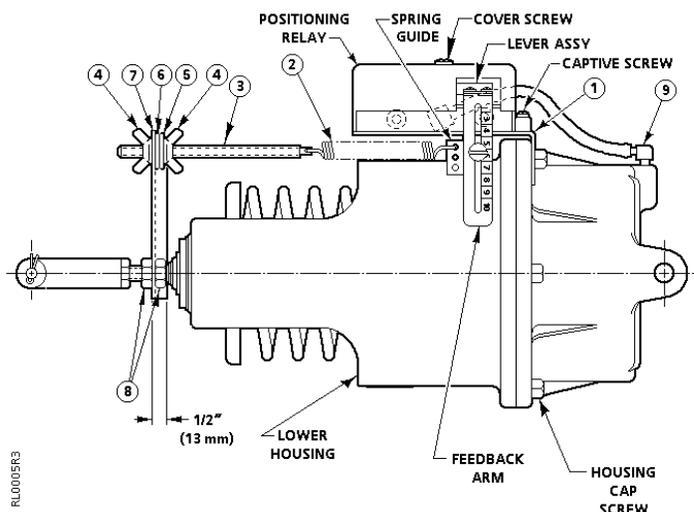

Figure 1. Positioning Relay Mounting Kit 147-276 on the No. 6 Damper Actuator.
1. Attach the mounting bracket (1) to the actuator by loosening two of the housing cap screws and inserting the mounting brackets as shown in *Figure 1*. Tighten the housing cap screws.
4. Thread one hex nut (8) onto the actuator shaft. Put spring arm (7) against the nut and thread the other hex nut onto the shaft against the spring arm as shown in *Figure 1*.
10. Attach the connector (9) to the actuator. See *Figure 1*.
11. Make pneumatic piping connections to the actuator and relay. The "S" Port is the air supply port. The "M" Port goes to the connector (9) on the actuator. The "T" Port is the signal from the controller. See *Figures 1 and 3*.